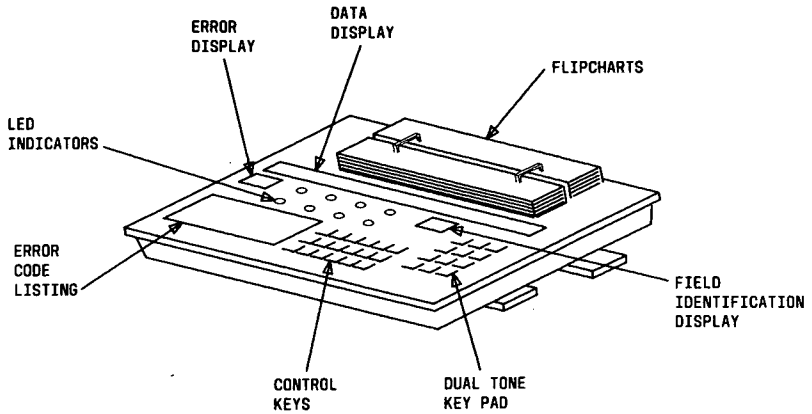

Figure 4. MAAP
2. Plug MAAP (Figure 4) into the **MAAP** connector associated with the common control being tested (Figure 2 or 3).
6. If Test 10 fails (the **FAIL** indicator lights), observe the eight field positions on the left side of the MAAP display (Figure 4). The eight fields (digits) should contain either a **0** (pass) or **1** (fail) to indicate the component of the tape system causing the failure.